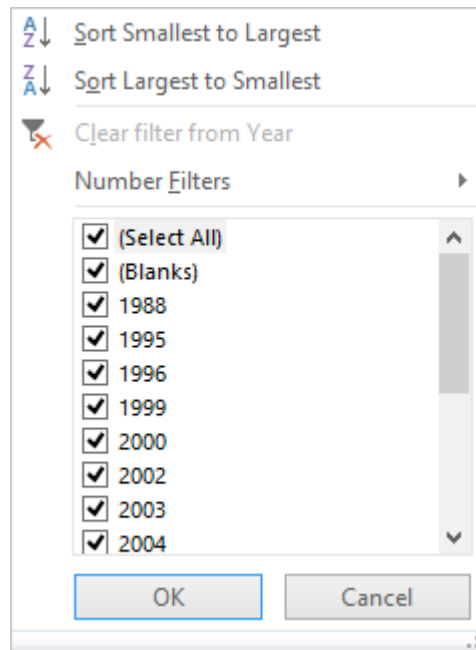

Figure 32: Filter Menu
3. Filter: To activate the filter tool, choose the **Home** → **Filter** button in the Sort & Filter group. The Filter menu appears as shown in Figure 32. You also can select a specific value to filter or use a number filter providing a comparison on the selected value. The number filter is also available in the **Home** → **Selection** list ( **Selection**) in the Sort & Filter group